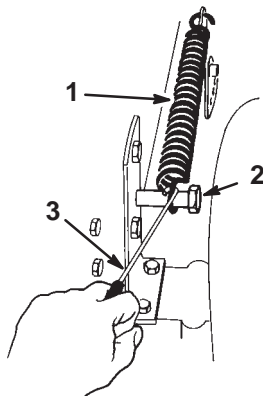

Figure 37
4. Remove the height-of-cut lift assist spring from the retaining bolt (Fig. 37), using the spring tool provided with the machine. The spring is between the frame and the right rear wheel.